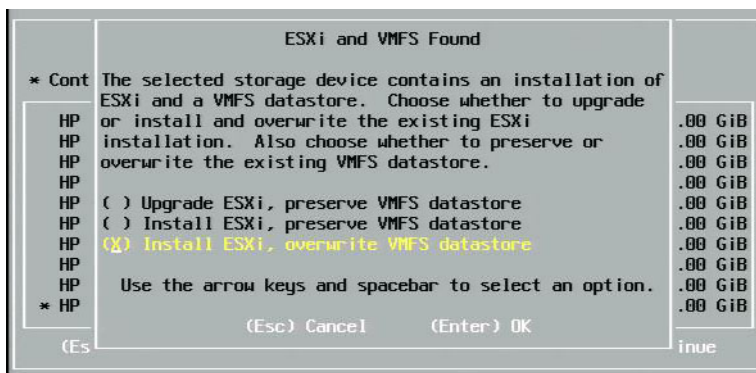

Figure 13-29. ESXi and VMFS Found
- On the ESXi and VMFS Found window (Figure 13-29), select the installation method.